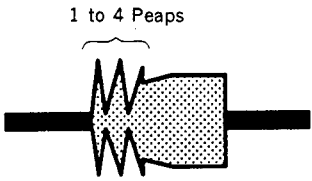

Fig. 3
- (3) Check that the RF waveform at the entrance side has 1 to 4 peaks in this condition. If not, adjust as follows. (fig. 3)